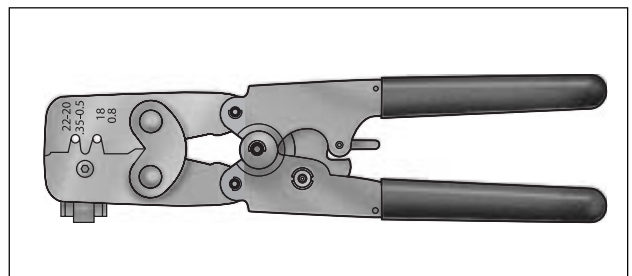

Figure B-30. Packard Micro 64 Terminal Crimper (Part No. HD-45929)
2. Obtain the Packard Micro 64 Terminal Crimper (HD-45929). See Figure B-30.